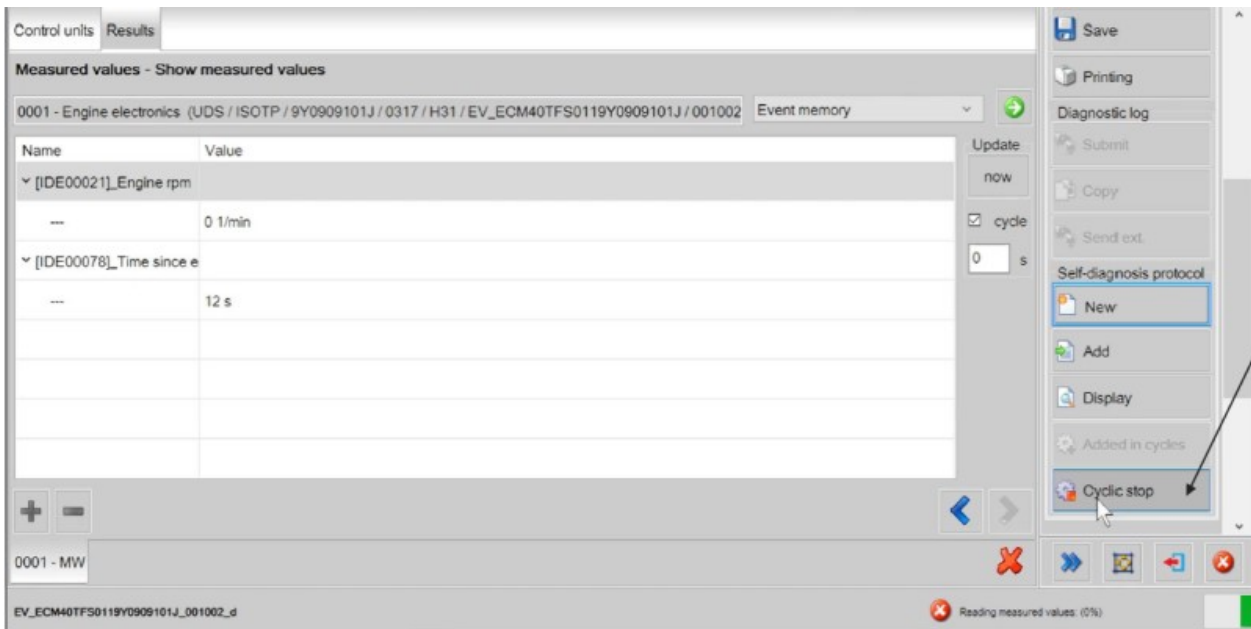

Figure 6
6) Select Cyclic stop as soon as the relevant data is collected to prevent excess redundant data (Figure 6)